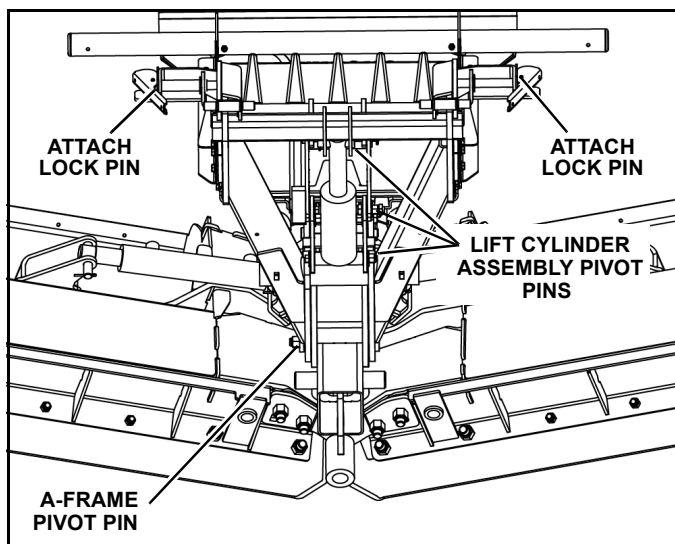

Figure 2-3
5. Apply a small amount of light oil to the lift cylinder assembly pivot pins, to front A-Frame pivot pin and both attach lock pins (See Figure 2-3).